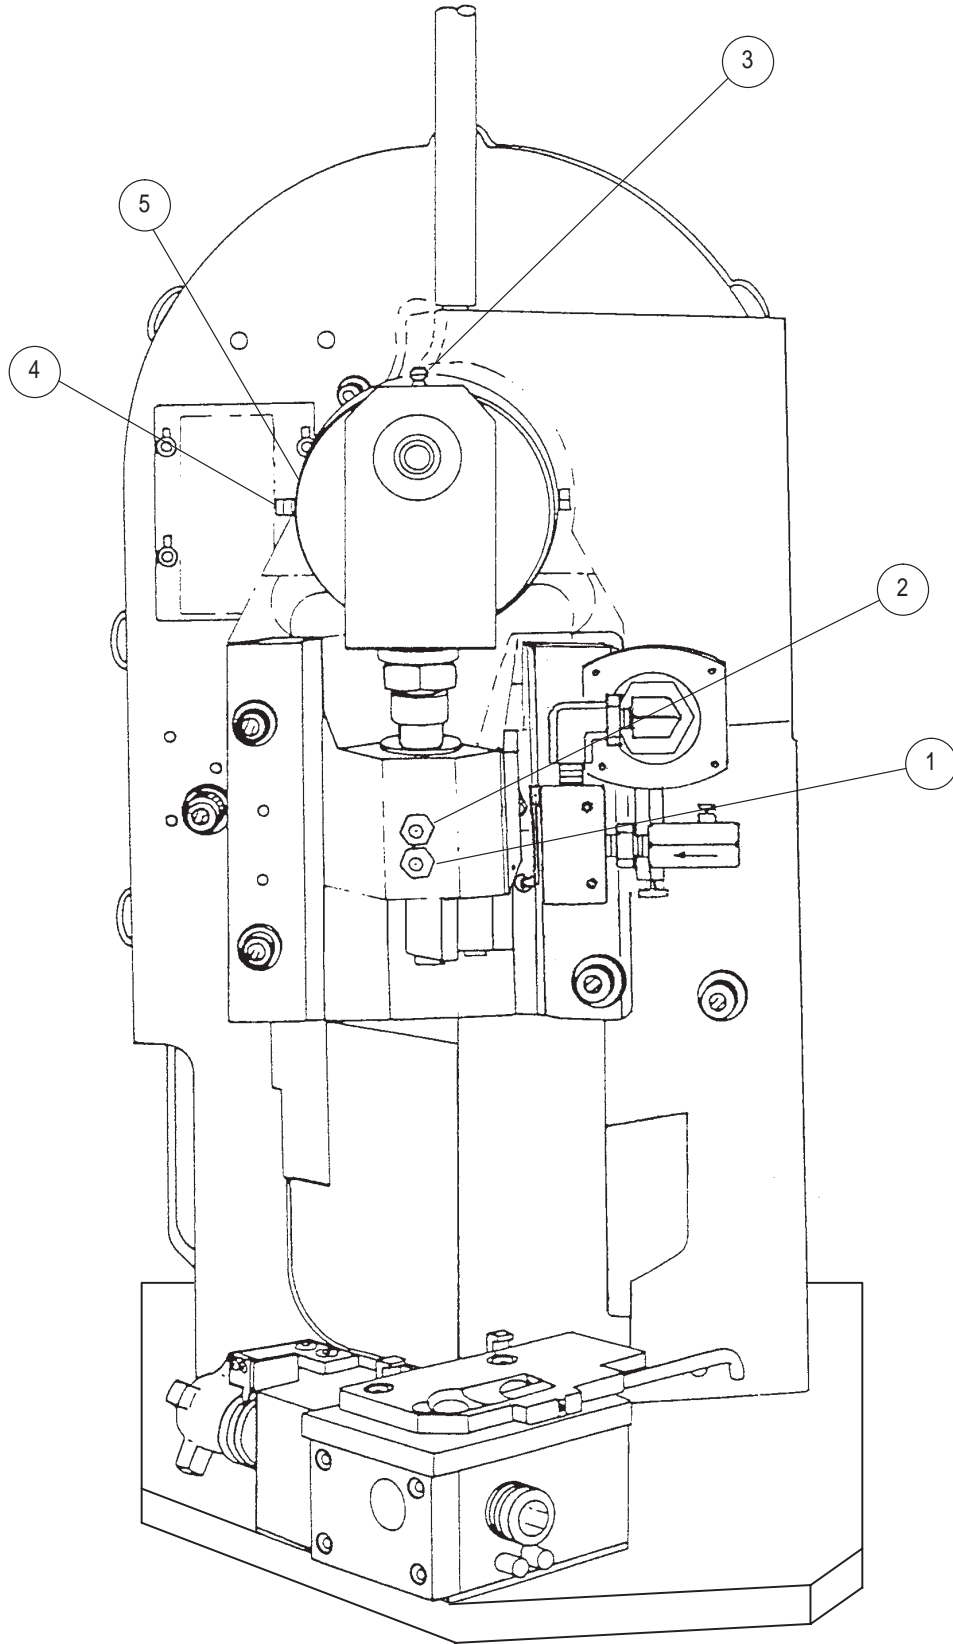

Figure 4-1. Lubrication Locations
A. Crankshaft-Ram Group (Figure 4-1)